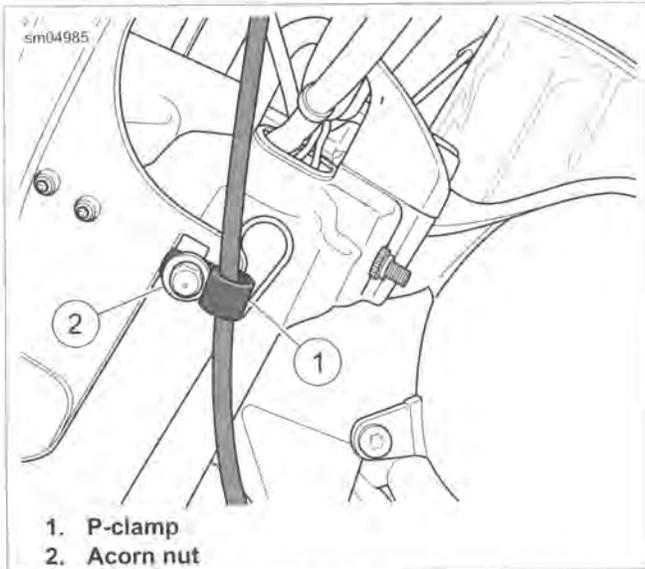

Figure 2-88. FLHR/C Clutch Cable Routing (Left Side View)
10. See Figure 2-88. Remove acorn nut to release P-clamp from stud in upper fork bracket. Remove clutch cable from P-clamp.
5. See Figure 2-88. Capture clutch cable in P-clamp (1) and secure to upper fork bracket with acorn nut (2). Tighten to 72-108 in-lbs (8.1-12.2 Nm).